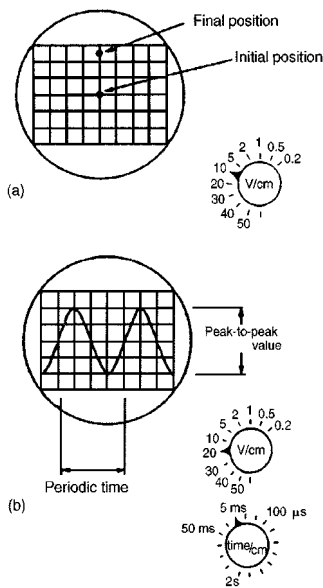

Figure 10.14
- (i) With **direct voltage measurements**, only the Y amplifier 'volts/cm' switch on the c.r.o. is used. With no voltage applied to the Y plates the position of the spot trace on the screen is noted. When a direct voltage is applied to the Y plates the new position of the spot trace is an indication of the magnitude of the voltage. For example, in Fig. 10.14(a), with no voltage applied to the Y plates, the spot trace is in the centre of the screen (initial position) and then the spot trace moves 2.5 cm to the final position shown, on application of a d.c. voltage. With the 'volts/cm' switch on 10 volts/cm the magnitude of the direct voltage is $2.5\ \text{cm} \times 10\ \text{volts/cm}$, i.e. 25 volts.
- (ii) With **alternating voltage measurements**, let a sinusoidal waveform be displayed on a c.r.o. screen as shown in Fig. 10.14(b). If the time/cm switch is on, say, 5 ms/cm then the **periodic time T** of the sinewave is $5\ \text{ms/cm} \times 4\ \text{cm}$, i.e. **20 ms** or **0.02 s**. Since frequency